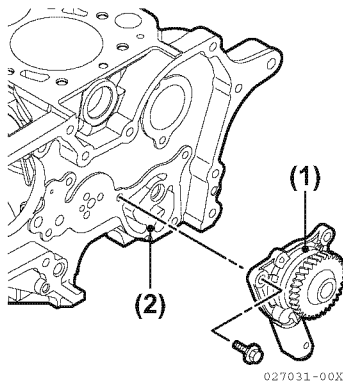

Figure 9-4
2. Remove the lubricating oil pump assembly mounting bolts. Remove the lubricating oil pump assembly (Figure 9-4, (1)) from the gear case flange (Figure 9-4, (2)).